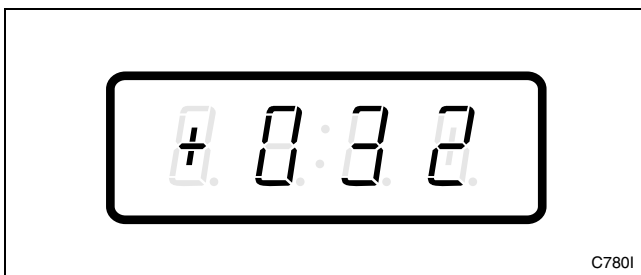

Figure 127
3. Press the DELICATES (+) or the COLD (-) keypad to scroll through the programmable options until “+032” appears in the VFD. Refer to *Figure 127*.